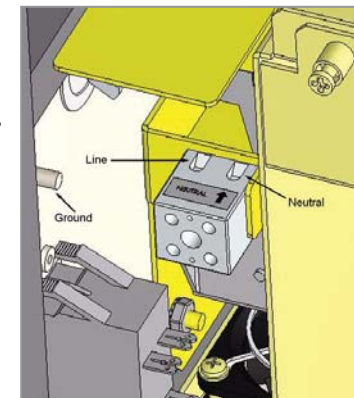

Figure 1 - Wiring AC Power
Step 4 Install power and control wiring (Figure1).